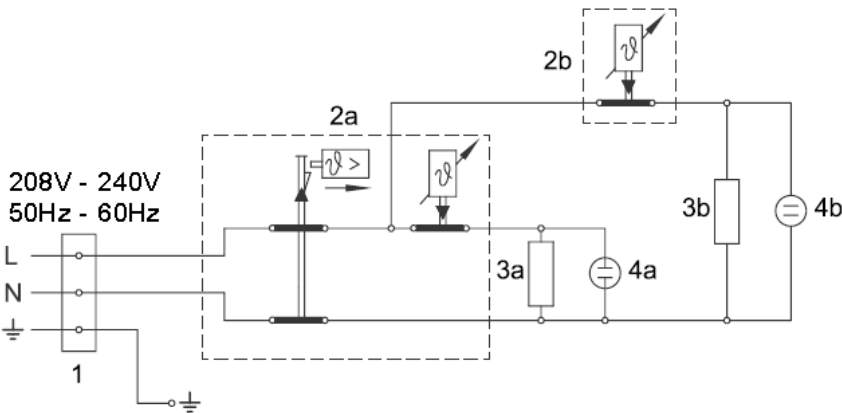

Figure 4A: 1 Phase, Non-Simultaneous
- iii. Attach wiring to the terminal block per Figures 4A and 4B depending on the phase of your unit.